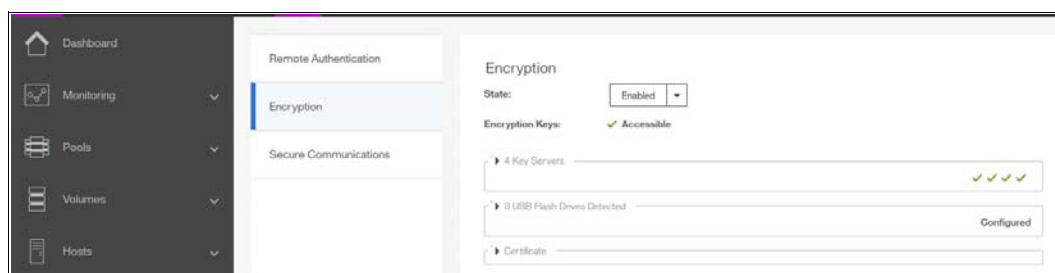

Figure 13-51 Encryption enabled with two key providers available
13. You can confirm that encryption is enabled, as well as verify which key providers are in use, by going to **Settings** → **Security** → **Encryption**, as shown in Figure 13-51. Note four green check marks confirming, that the master access key is available on all four SKLM servers.